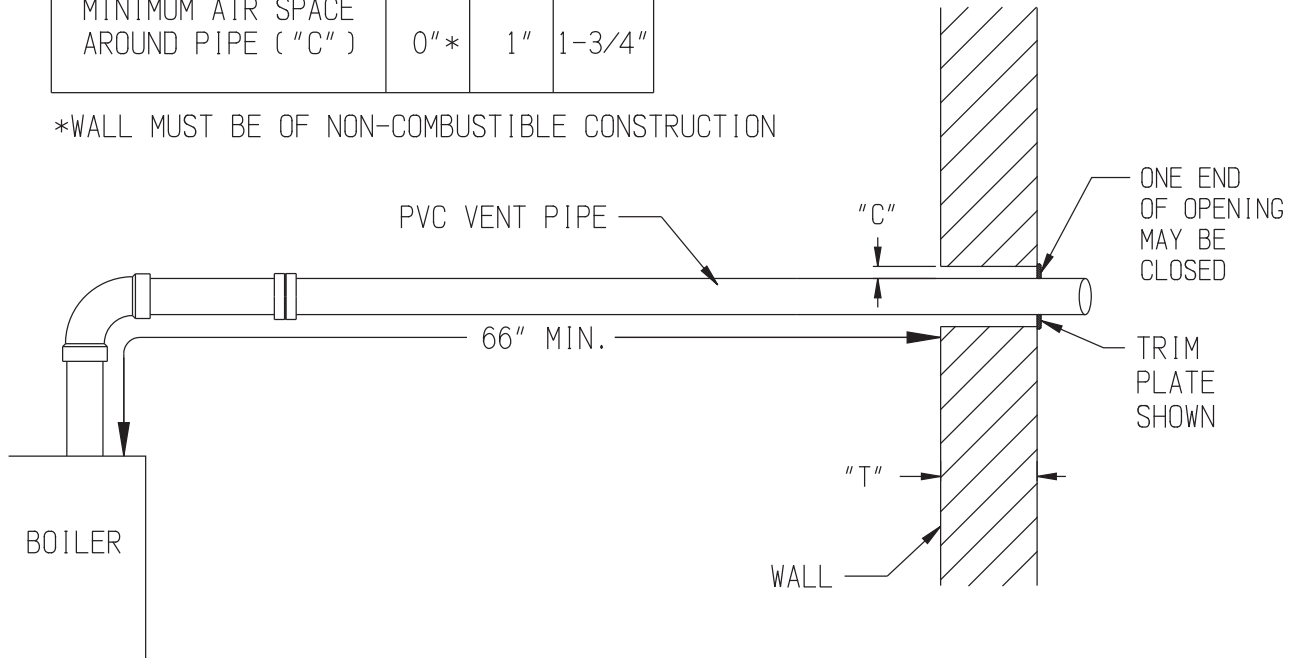

FIGURE 7.4: WALL PENETRATION CLEARANCES FOR PVC VENT PIPE
- c. An airspace of at least that shown in Figure 7.4 is maintained around the OD of the vent.